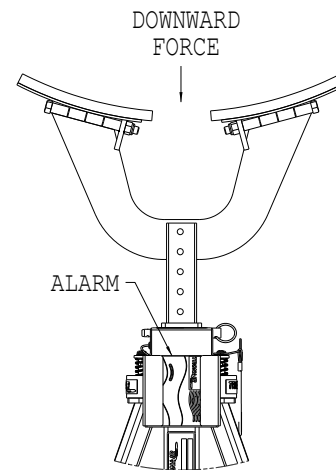

FIGURE 3
2. Test alarm by slowly applying a force evenly distributed across the top of the cradle. The cradle head will lower and engage a limit switch. A loud pulsating alarm will then sound when the force reaches between 100 to 150 pounds (45.36 to 68.04 kg). If alarm does not sound, refer to the Troubleshooting section. **Reference Figure 3.**